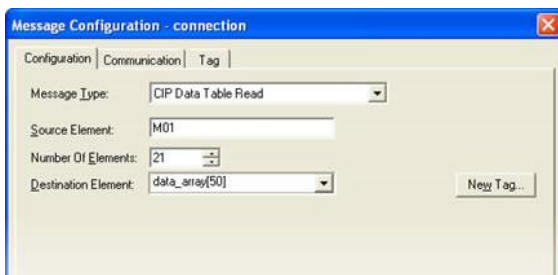

Figure 56: MSG Instruction Configuration
b) Click the message configuration button ("...") in the MSG instruction. The "Message Configuration" window will open. Refer to Figure 56.